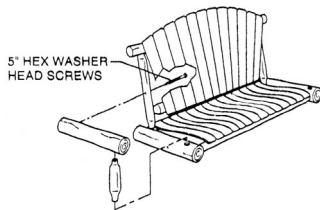

figure 2
- STEP 3** Insert 12" arm support into 1-1/2" hole in arm, then into 1-1/2" hole in the top of the seat end. Drive dowels in as far as possible. Fasten arm to frame of the back by tightening the preinstalled 1/4" x 5" lag screw into the pilot hole in the arm with a wrench. Repeat process for the other arm. See Figure 2.